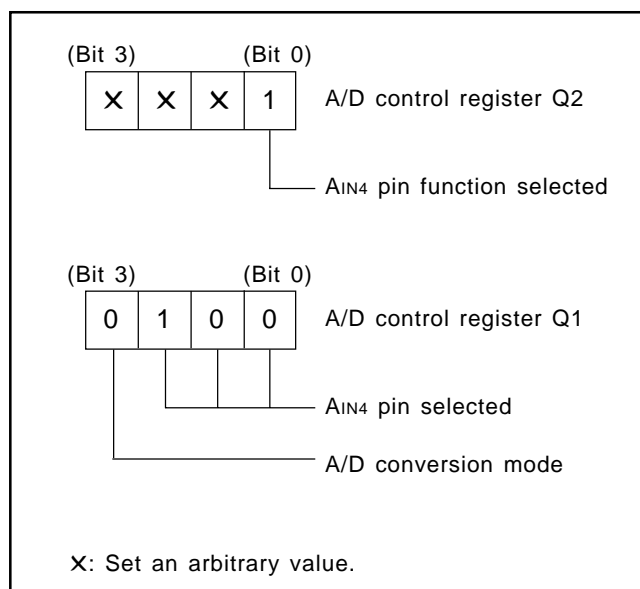

Fig. 35 Setting registers
- ① Select the AIN4 pin function with the bit 0 of the register Q3. Select the AIN4 pin function and A/D conversion mode with the register Q1 (refer to Figure 35).
- ② Execute the ADST instruction and start A/D conversion.
- ③ Examine the state of ADF flag with the SNZAD instruction to determine the end of A/D conversion.
- ④ Transfer the low-order 2 bits of converted data to the high-order 2 bits of register A (TALA instruction).
- ⑤ Transfer the contents of register A to $M(Z, X, Y) = (0, 0, 2)$.
- ⑥ Transfer the high-order 8 bits of converted data to registers A and B (TABAD instruction).
- ⑦ Transfer the contents of register A to $M(Z, X, Y) = (0, 0, 1)$.
- ⑧ Transfer the contents of register B to register A, and then, store into $M(Z, X, Y) = (0, 0, 0)$.